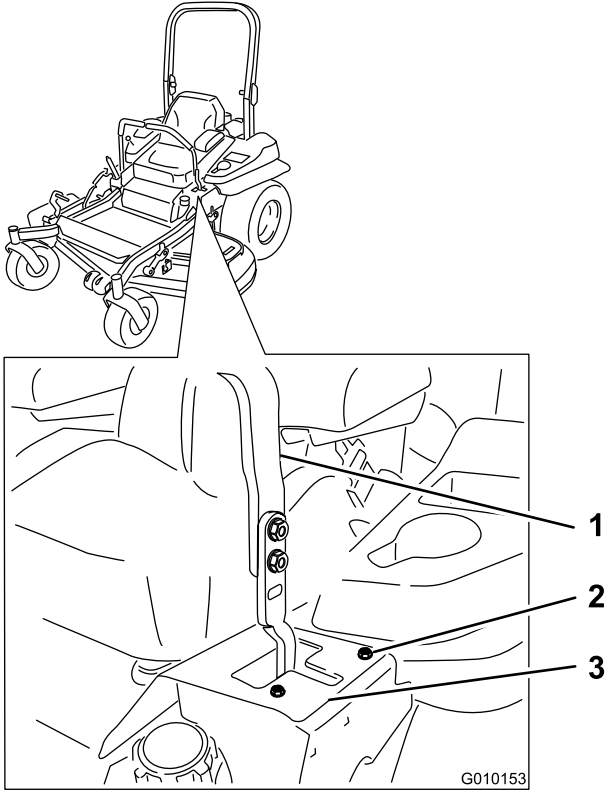

Figure 63
- If it tracks to the right, loosen the bolts and adjust the left stop plate rearward on the left T-slot until the machine tracks straight (Figure 63).
right T-slot until the machine tracks straight (Figure 63).
6. Tighten the stop plate (Figure 63).